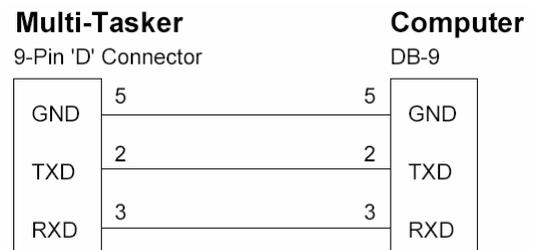
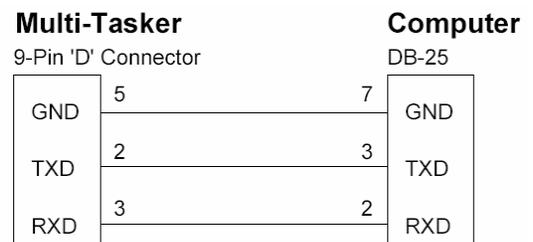

Figure 1
Figure 2
**NOTE:** Make sure the transmit pin of the control unit is connected to the receive pin of the **MT100-108** and that the receive pin of the control unit is connected to the transmit pin of the **MT100-108**. See Figure 1 and Figure 2.
The RS-232 cable must have the appropriate connector on each end and the internal wiring must be correct. Connectors typically have 9 pins (DB-9 connector) or 25 pins (DB-25 connector) with a "male" or "female" pin configuration. See Figures 1 and 2 for pinout details.